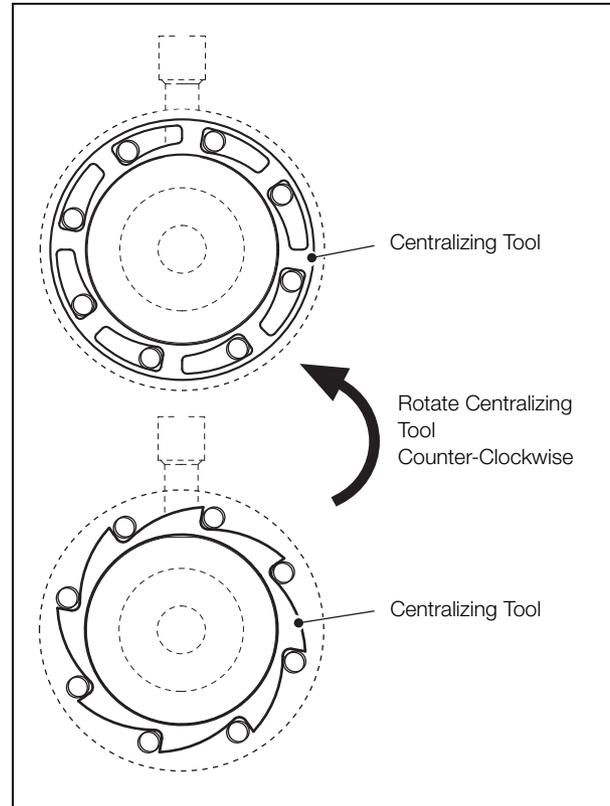

Fig. 2.7 Centralizing Tool
Note. One of two types of centralizing tool is supplied with the meter – see Fig. 2.7.
10. Referring to Fig. 2.7, rotate the centralizing tool to push the bolts against the outer edge of the bolt holes.